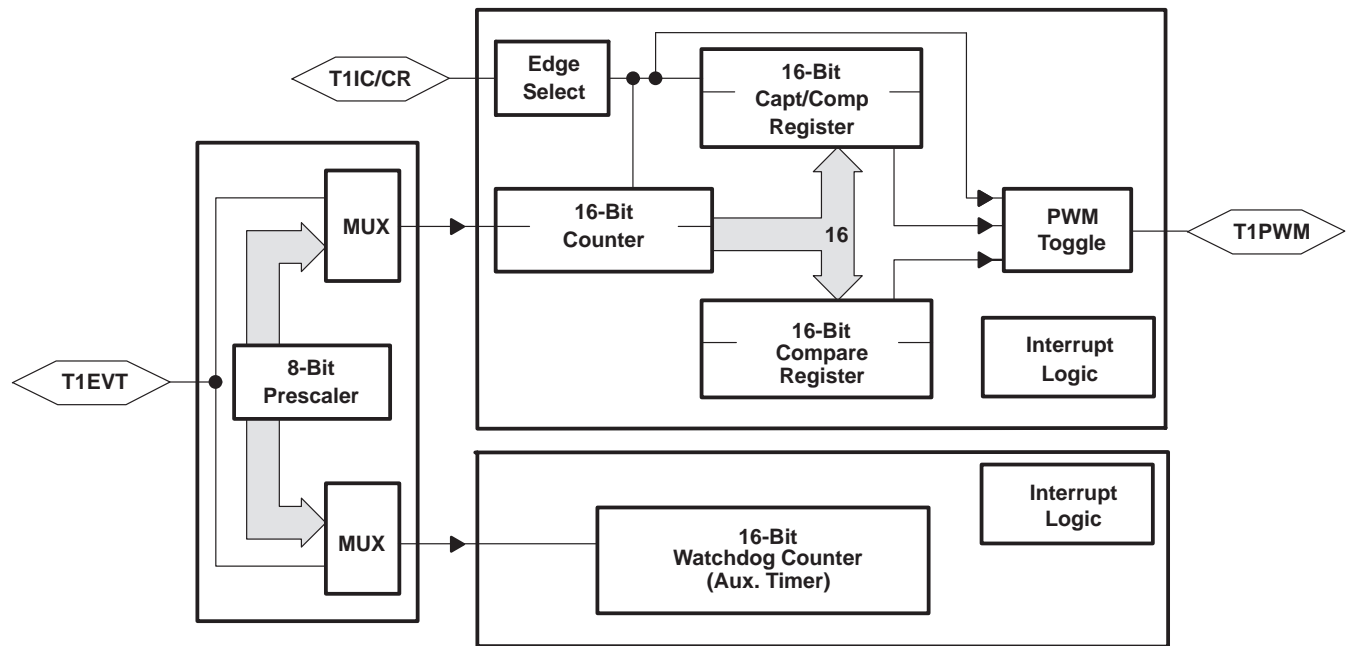

Figure 5. Timer 1 Block Diagram
The programmable Timer 1 (T1) module of the TMS370CxCx provides the designer with the enhanced timer resources required to perform real-time system control. The T1 module contains the general-purpose timer and the watchdog (WD) timer. The two independent 16-bit timers allow program selection of input clock sources (real-time, external event, or pulse accumulate) with multiple 16-bit registers (input capture and compare) for special timer function control. The T1 module includes three external device pins that can be used for multiple counter functions (operation mode dependent) or used as general-purpose I/O pins. The T1 module is shown in Figure 5.